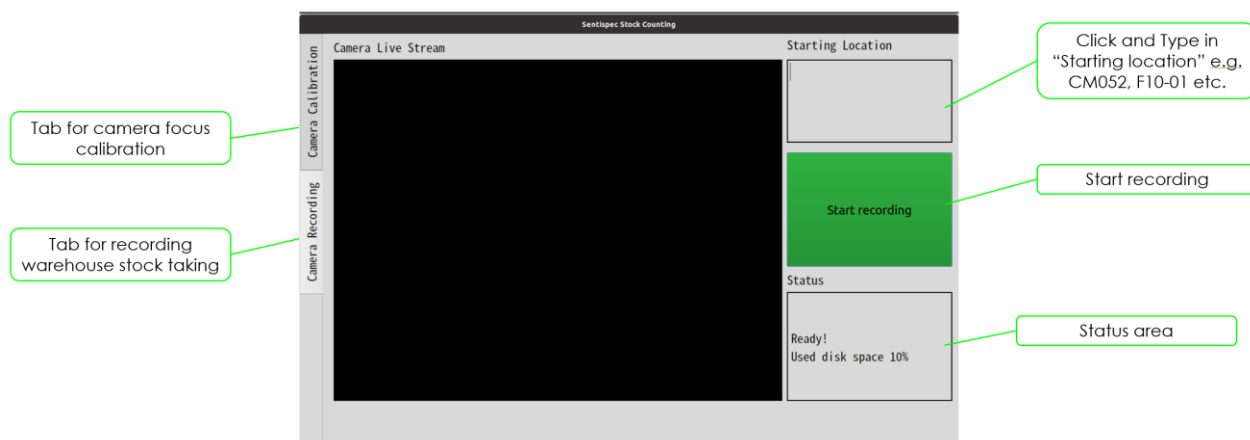

Figure 2 Control UI
4. Wait for the Sentispec application to fully load. (Figure 2 Control UI)
7. Click "Start Recording." (Figure 2 Control UI)
11. Once the section is complete, press "Stop Recording." (Figure 2 Control UI)